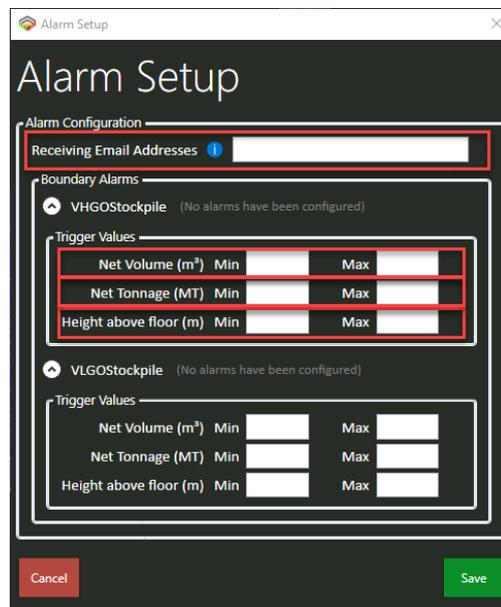

Figure 85. *Alarm Setup* dialog.
GeoSLAM Volumes provides the user with the ability to set up email alerts when either min and / or max, net volume, net tonnage or a height above the reference floor values are met. The *Alarm Setup* dialog (Figure 85) allows the user to set both the recipients of the alert emails together with the bounding values that will trigger the alert email. Trigger values are set per boundary.
2. This will open the *Alarm Setup* dialog (Figure 85).